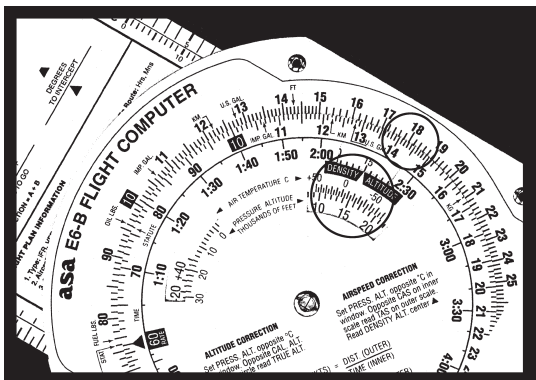

Figure 13
3. Read the density altitude over the arrow in the DENSITY ALTITUDE window. See Figure 13.
Figure 13 shows a pressure altitude of 15,000 feet set opposite an outside air temperature of  $-15^{\circ}\text{C}$ . A calibrated airspeed of 145 knots converts to a true airspeed of 183 knots and a density altitude of 15,000 feet under these conditions.